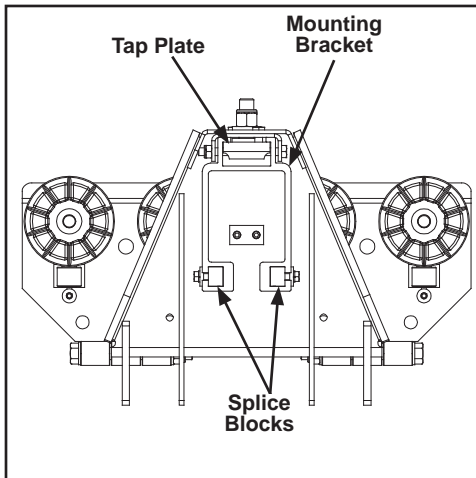

Figure 3-97
- Step 1. Slide three (3) tap plates and mounting bracket assemblies into bracket channel. See Figure 3-97.
- Step 2. Insert two (2) splice block assemblies into bottom channels of rail with tapped hole facing end of rail.
- Step 3. Place same plane assembly over two (2) 3/4 - 10 bolts pointing up from mounting bracket assemblies.
- Step 6. Install two (2) M10 x 30 mm HHCS into tapped holes in splice blocks on face of bracket. **Tighten until snug.** See Figure 3-97.